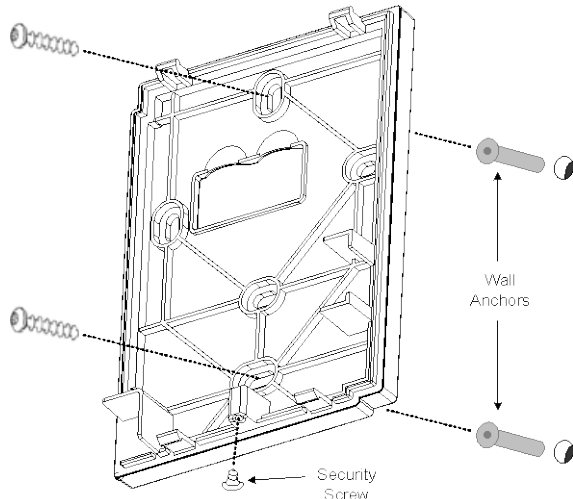

Figure 7-1: Mounting an Allure EC-Smart-Vue
1. Remove the security screw from the device (Figure 7-1).
2. Open the device by pressing in the two (2) tabs on the bottom of the device with a flat screwdriver and pulling the bottom side of the front plate out.